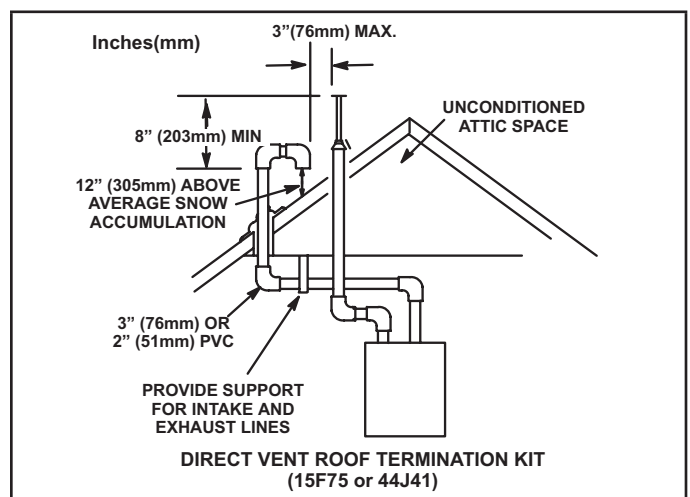

FIGURE 33
Intake and exhaust pipes may be routed either horizontally through an outside wall or vertically through the roof. In attic or closet installations, vertical termination through the roof is preferred. FIGURE 33 through FIGURE 38 show typical terminations.
- 3 - On roof terminations, the intake piping should terminate straight down using two 90° elbows (See FIGURE 33).